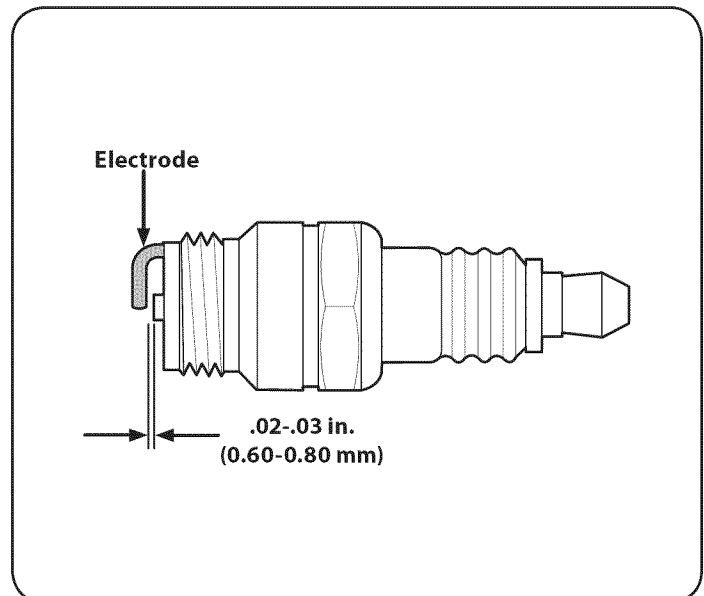

Figure 11
3. Measure the plug gap with a feeler gauge. Correct as necessary by bending the side electrode, Figure 11. The gap should be set to .02-.03 inches (0.60-0.80 mm).